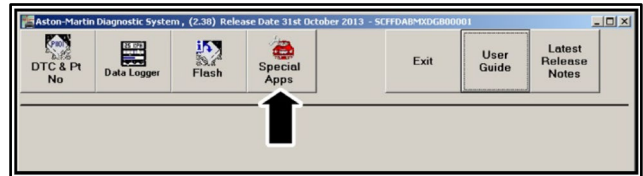

Figure 12
19. Click "Special Apps" (refer to Figure 12).